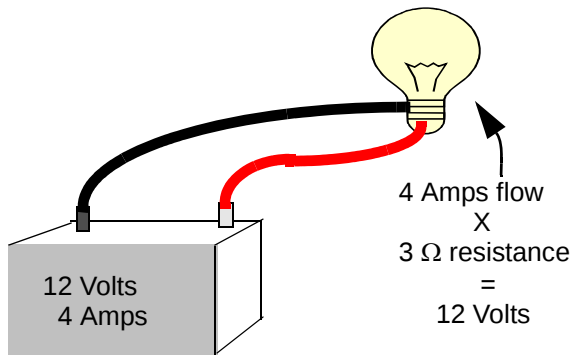

Figure 7.27
- As an example, imagine a circuit that has a 12V battery that produces 4 amps of current powering a light bulb that creates 3 Ω of resistance. The wires are assumed to have 0 Ω resistance*. The light bulb uses 12 volts (4 amps x 3 ohms = 12 volts). The battery produces 12 volts that equals the 12 volts used by the light bulb. See Figure 7.27.